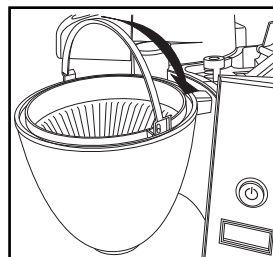

Fig. 5
- Remove the carafe from the pedestal, replace the Filter Holder Insert (Fig. 4) and insert the Goldtone Filter. Make sure to place the Cover Lid correctly on top of the Filter Holder Insert (Fig. 5).